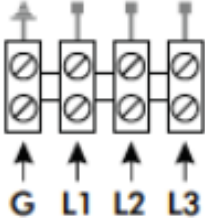

Figure 13: Image indicating location.
- 6. Connect the ground and 3 phases of AC input cable to the respective AC input terminal, referring to Figure 13.
1. Check the charger switch is ON by pressing down on “I” (Figure 13).
3. Connect the charger with a different Stromcore Battery of the same voltage (V) and Ampere (A) to check if the same error with the charger persists.